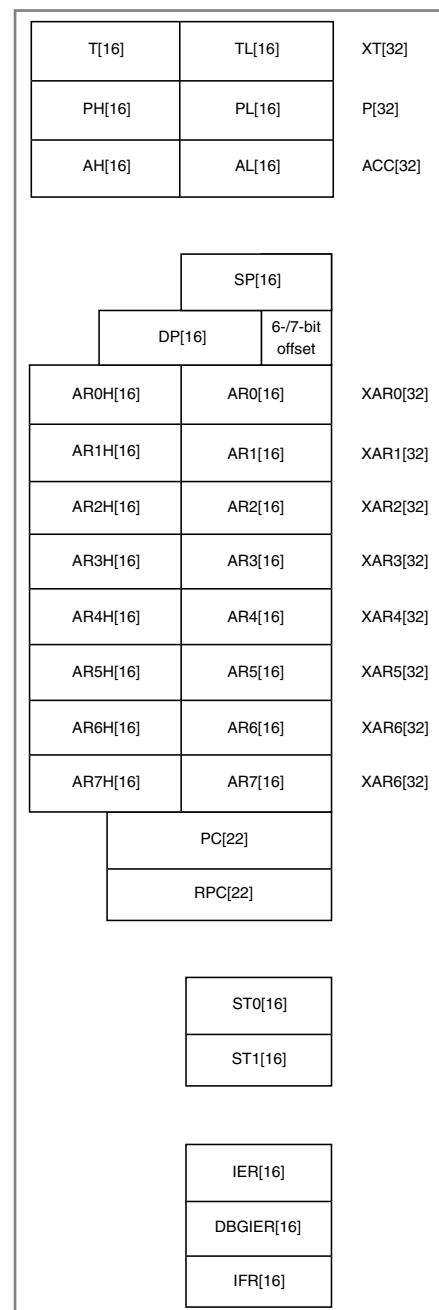

Figure 3—RISC, CISC, or DSP? The Piccolo architecture combines aspects of all three.
Piccolo features an interesting mix of architectural styles, as seen in the layout of the main registers (see Figure 3). The XT, P, and ACC registers do the DSP heavy lifting for the single-cycle 32×32 multiplier and barrel shifter. On the other hand, the 8×32 -bit XAR general-purpose registers lend a RISC-like feel. To streamline direct addressing, the 16-bit data pointer (DP) register fronts a 6-bit offset contained in the instruction to reach any location in the lower 4M words of data space. Of course, much of the big-iron addressing capability is underused in single-chip devices.